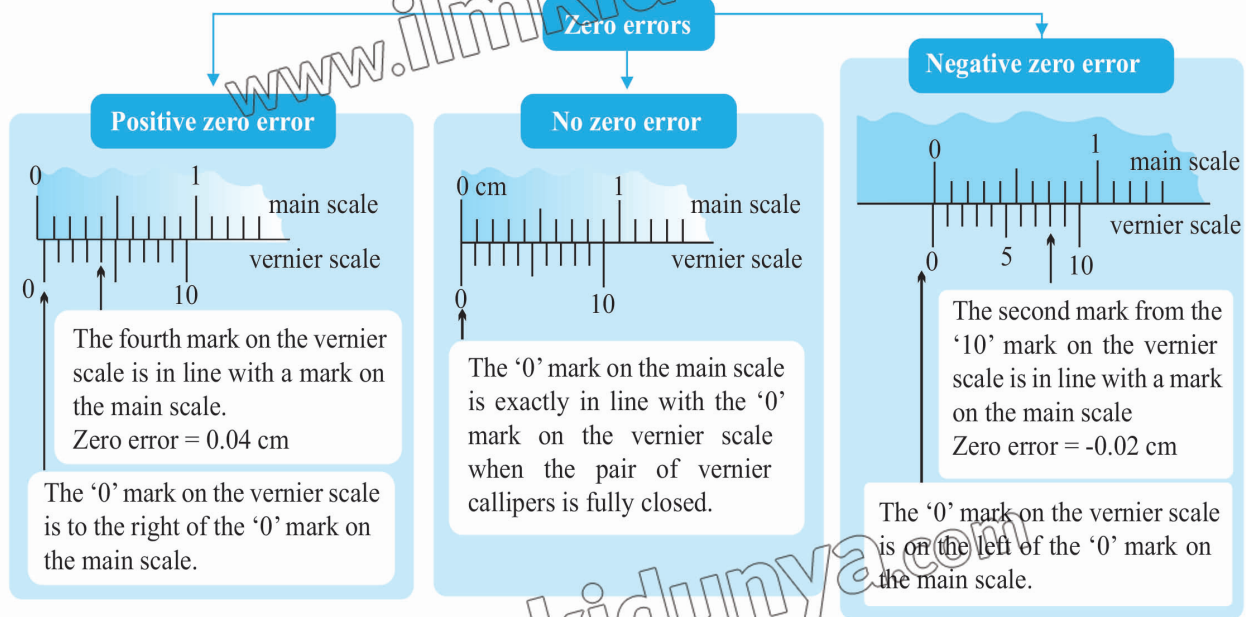

Figure 2.17 Zero error determination in vernier calipers. It may have positive or negative value
- Vernier calipers may exhibit zero error if the '0' mark on the main scale does not align with the '0' mark on the vernier scale when the caliper jaws are fully closed. This zero error can be positive (if the vernier scale's zero is on the right of the main scale's zero) or negative (if on the left). It affects all measurements taken with the caliper and can lead to incorrect readings. This is indicated in figure 2.17. To correct for zero error, note which vernier scale